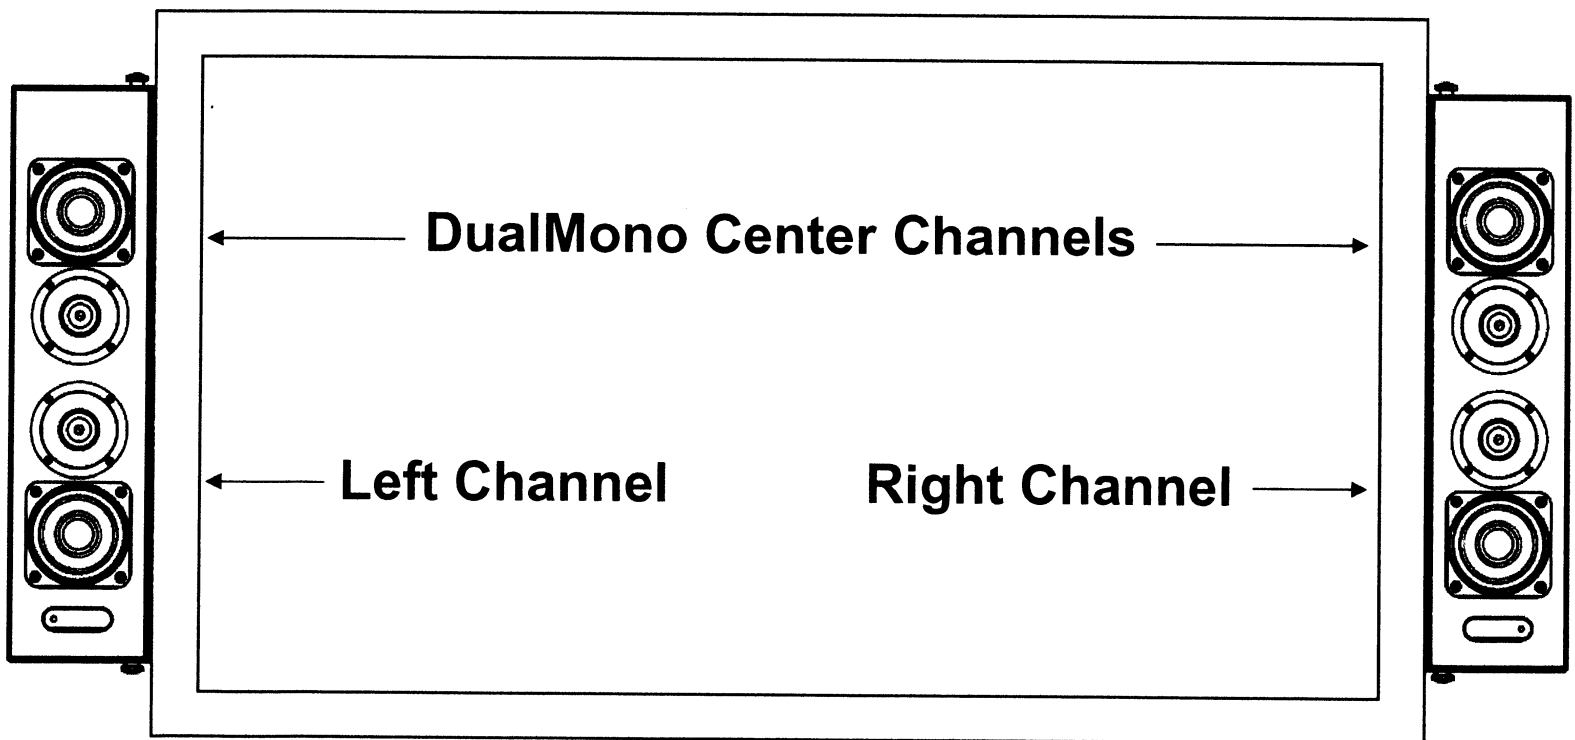

FIGURE 13
25. Carefully slide the LCR DMs into the vertical bracket that is now mounted to the display. Place each speaker on their corresponding sides of the television. The DualMono Center Channels should be located on the top half of the display. **Refer to Figure 13.**
5. Place each LCR DM on their corresponding sides of the television. The DualMono Center Channels should be located on the top half of the display. **Refer to FIGURE 13.**